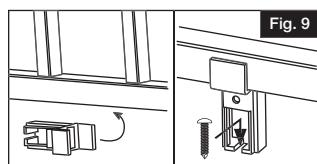

Fig. 9
Pivot support block in place under the rail (Fig. 9).
- a. Measure the length of the rail panel and cut the top rail (sold separately) to match. Press down on the top rail to ensure that it fits snugly onto the panel (Fig. 9).
- b. Align top stair bracket with the rail end only at the top of the stairs (Fig. 9). Using the pre-drilled holes as a guide, drill through the railing using a $\frac{1}{8}$ " drill bit being careful not to drill through the top of top rail. Do this for the top of the stairs only (Fig. 10).